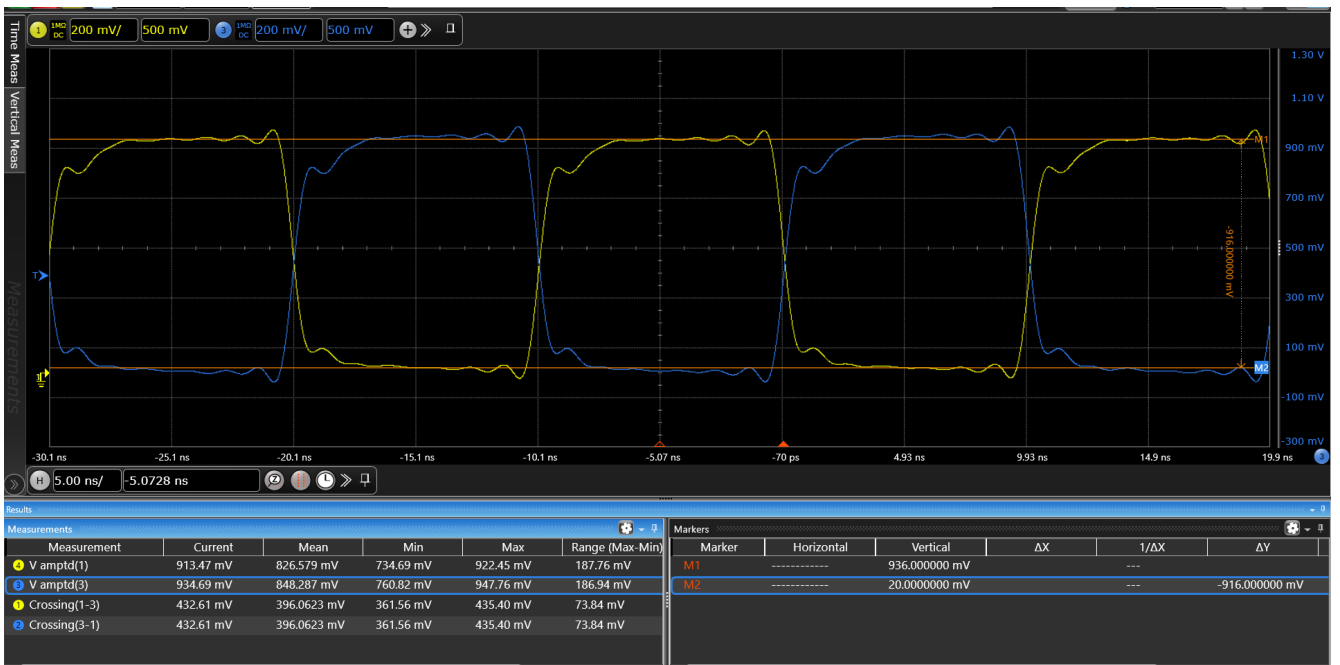

Figure 13. Vovs – HCSL Internal Termination, Boost = 15% on OUT0 (yellow trace) and nOUT0 (blue trace)
- Figure 13. Vovs – HCSL Internal Termination, Boost = 15% on OUT0 (yellow trace) and nOUT0 (blue trace)7